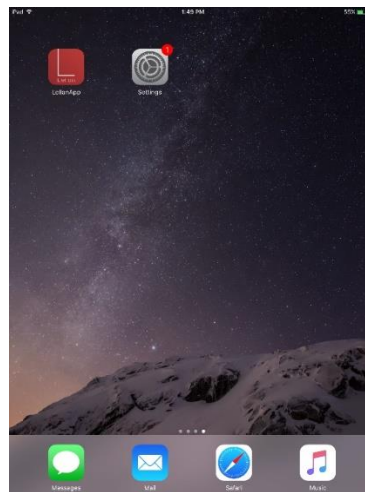

Figure 5-16: iOS Home Screen
- Press the Home button to return to the iOS Home Page (Figure 5-16).